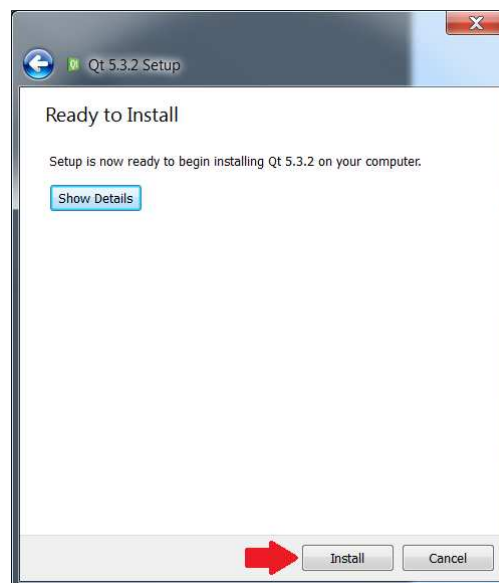

Figure 8. Qt Ready to Install
7. Qt is now ready to install, click “Install” as shown in Figure 8. Qt will begin installing. Wait for the installation to complete.